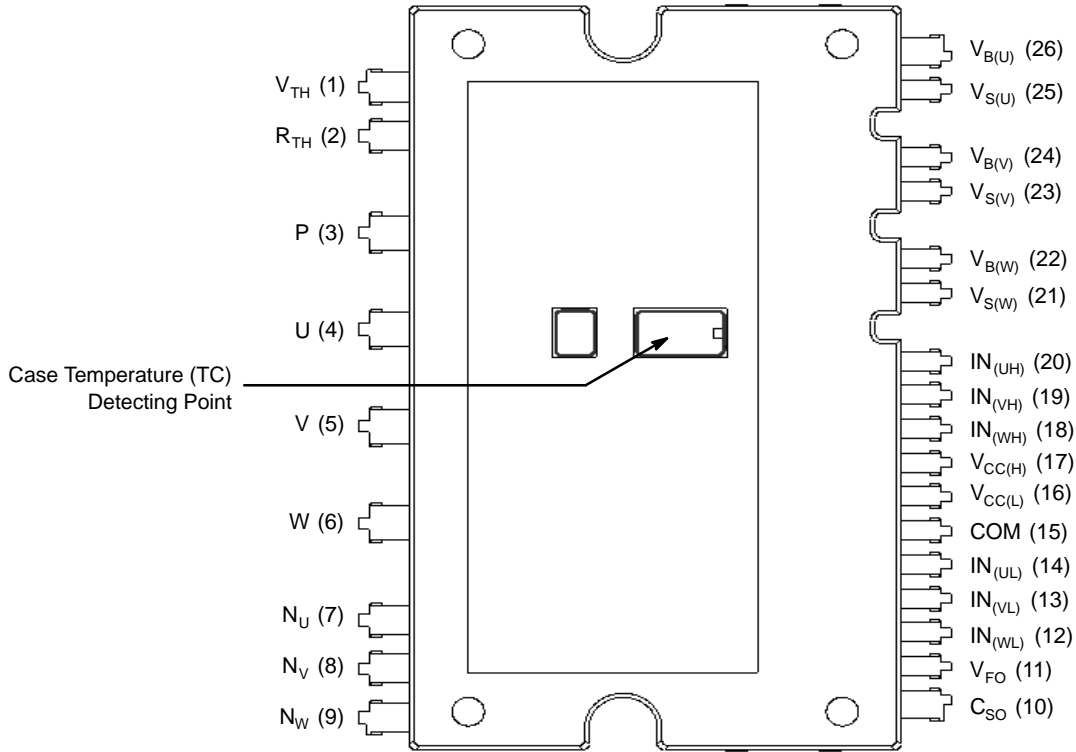

Figure 1. Top View
6. For the measurement point of case temperature (T_C), please refer to Figure 1.